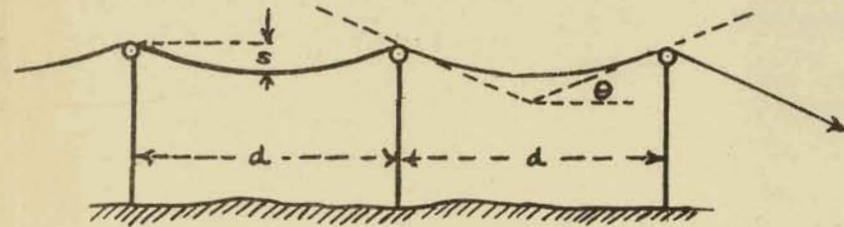

Fig. 2
2. Figure 2 shows the erection of an electric cable weighing 900 kilograms per span between posts. The tension in the cable where it runs over the pulleys is 950 kilograms. Calculate the sag  $S$  of the cable. (You may assume  $S = \frac{1}{4}d \tan \theta$ ) The distance between the posts is 200 metres.